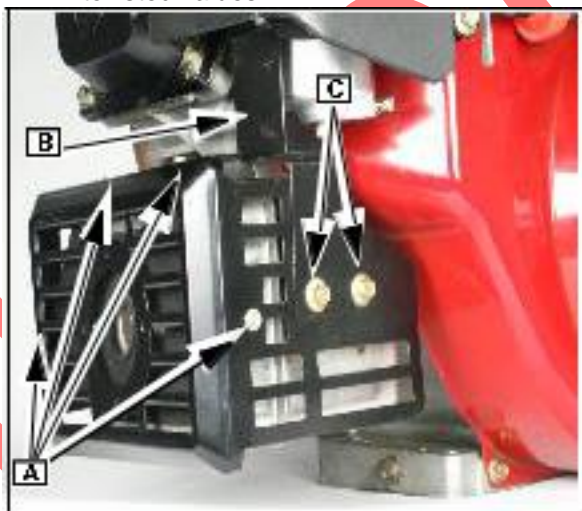

Fig. 19
Secure muffler guard ([A] Fig. 19) to its bracket with four screws and torque to listed values.
Install carburetor heat shield ([B] Fig. 19) with two mounting screws (C) and torque to listed values